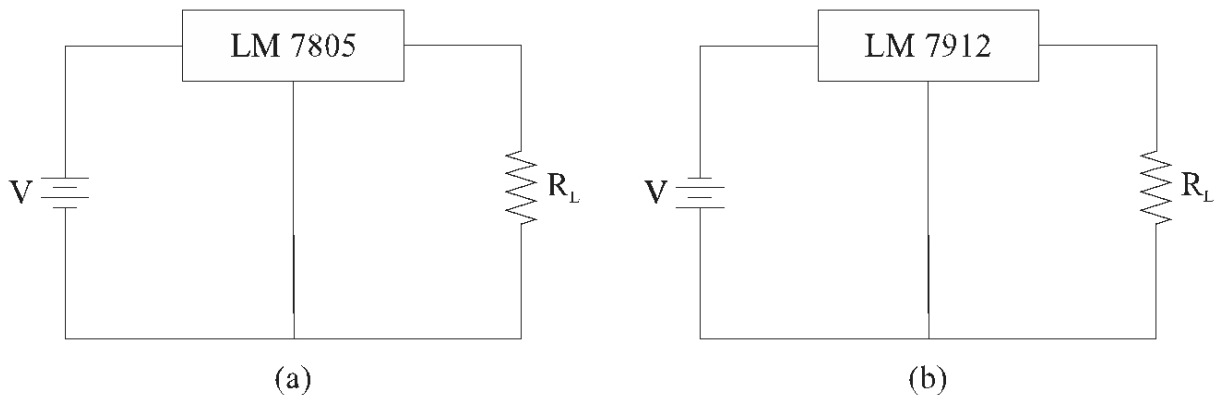

Figure 7-9-1. Built-in regulator (a) positive (b) negative.
1. Assemble the circuits shown in figures 7.9.1(a) and (b) and measure the output voltages without load.